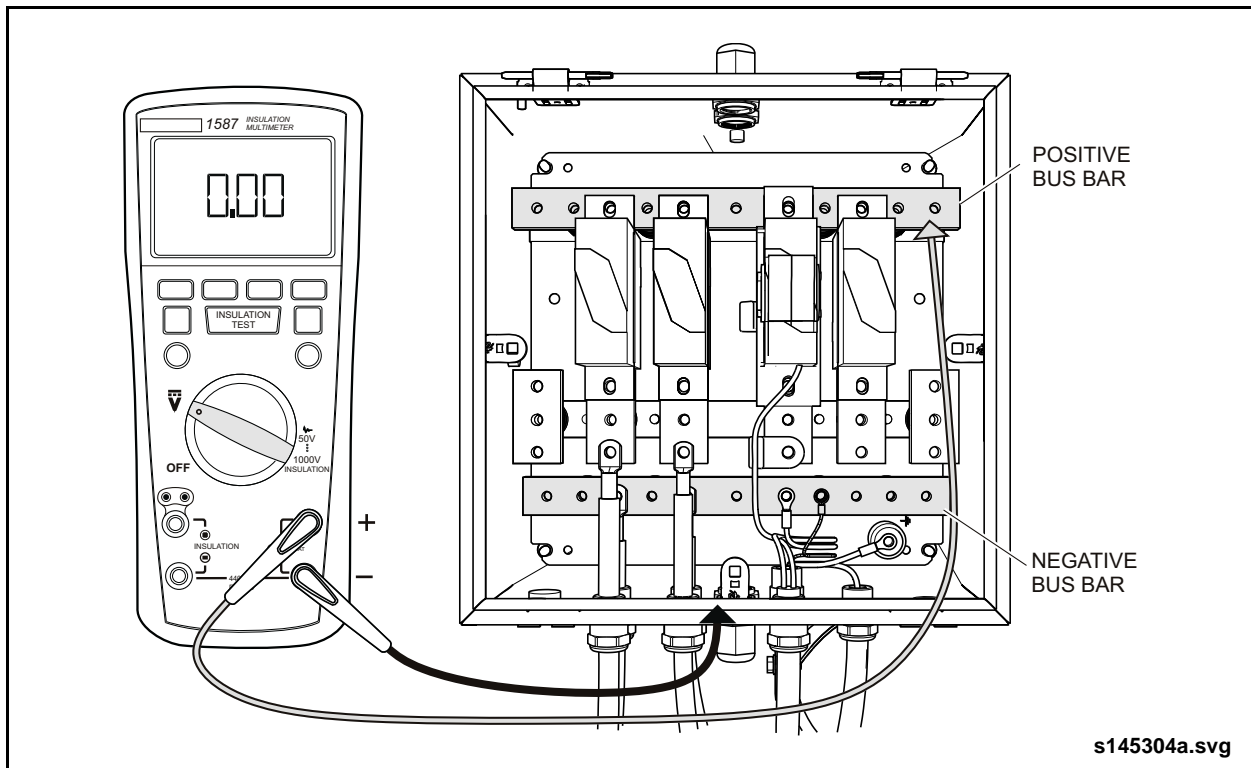

Fig. 11: High Voltage Verification - 2
- b. Measure from the positive bus bar to the grounded enclosure or roof rack structure. See “Fig. 11: High Voltage Verification - 2” on page 9.